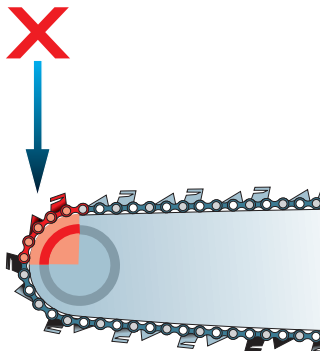

Figure 1:
- it is fitted with a chain type recommended by the manufacturer and is designed to reduce kickback, which is the uncontrolled upward and/or backward motion of the guide bar. Kickback happens when the nose of the guide bar contacts an object such as a log or branch or when the wood pinches the saw chain in the cut (see Figure 1);